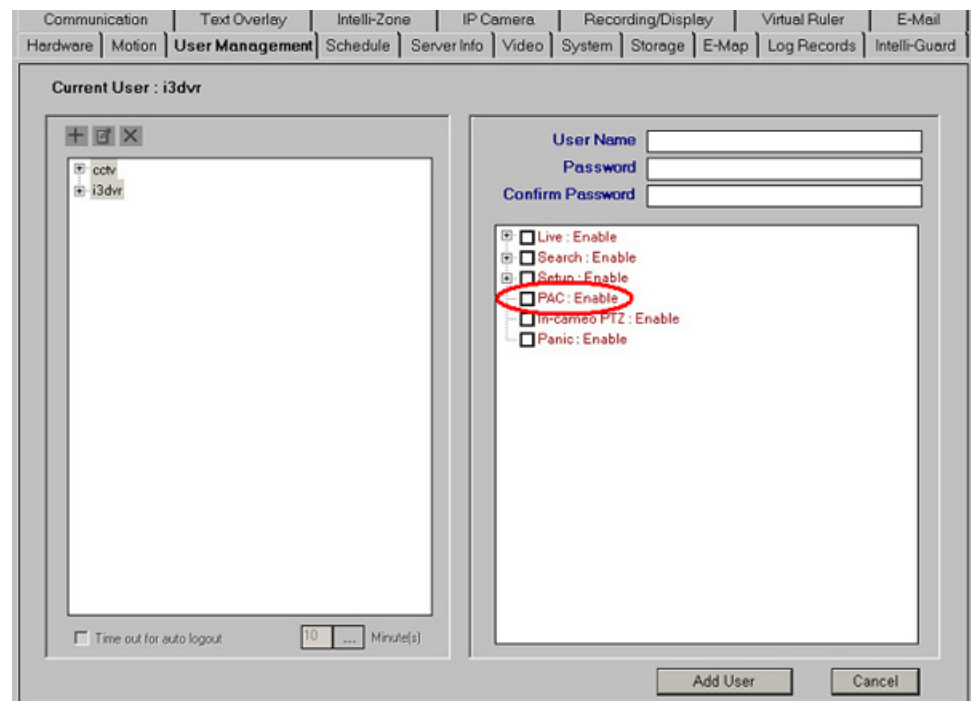

Figure 97 – Password Setup Window
3. The screen below in Figure 97 should appear